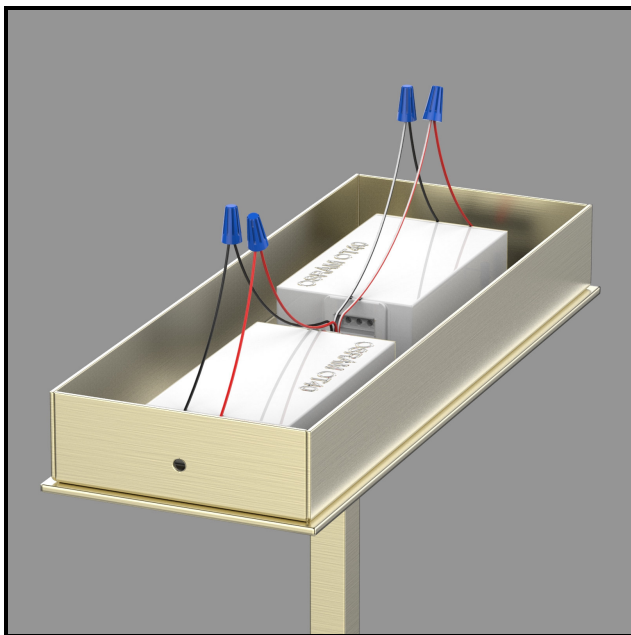

Figure 7
- Make wire connections from the LED source to the two drivers in the canopy. (Figure 7)